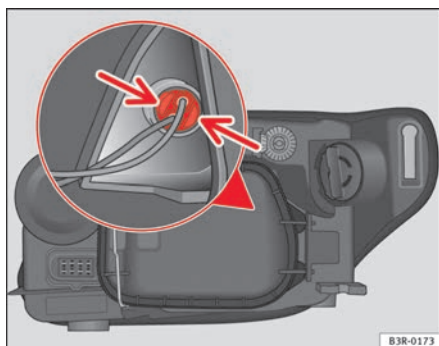

Fig. 196 Side light bulb (outside of vehicle)
- Gently press on the bulb holder tabs ⇒ fig. 196 and pull the cover upwards (it can also be removed by pulling on the bulb holder wires).